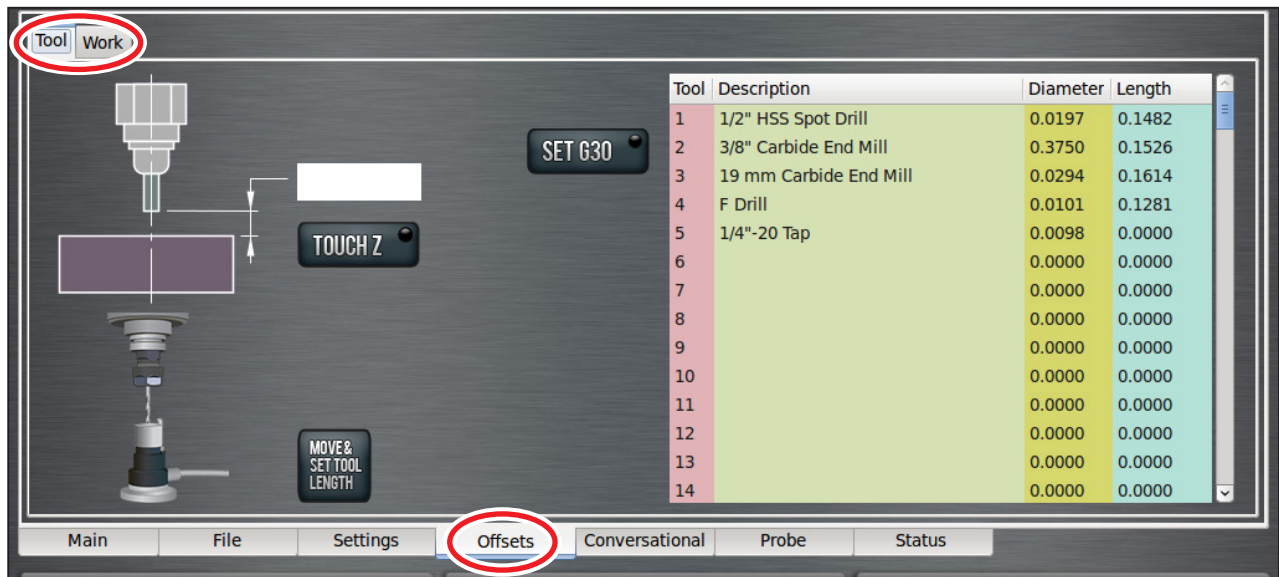

Figure 6.18
The *Offsets* tab reveals two sub tabs, *Tool* and *Work* (see **Figure 6.18**).
The *Tool* tab displays a tool table on the right with fields available to input tool information (see **Figure 6.18**).
4. Click on the appropriate line in the tool table (see **Figure 6.18**); the line is highlighted.
5. Press *Data* button on the USB interface cable to transfer measurement information to the *Length* field in the tool table (see **Figure 6.18**).
The offsets table on the *Offsets* screen (see **Figure 6.18**) displays an editable table of tool offsets (both geometry offsets and wear offsets) as well as a read-only table of work offsets. To alter a value in the tool offsets table, double-click on the field. After entering the desired new value, click *Enter* to accept the value.
The *Work* tab (see **Figure 6.18**) displays a read-only table of work offsets. The active work offset is highlighted in this table.